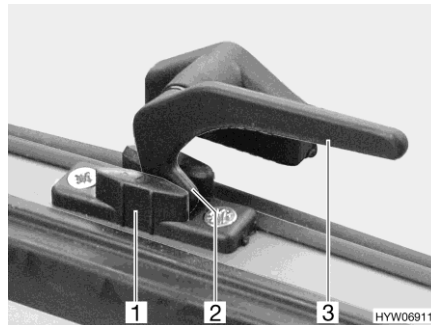

Fig. 66 Catch lever ("continuous ventilation" position)
- "Continuous ventilation" (Fig. 66)
- Turn all catch levers (Fig. 66,3) a quarter turn towards the centre of the window.
- Return all catch levers to their initial position. The locking catch (Fig. 66,2) has to be moved into the recess of the window catch (Fig. 66,1).